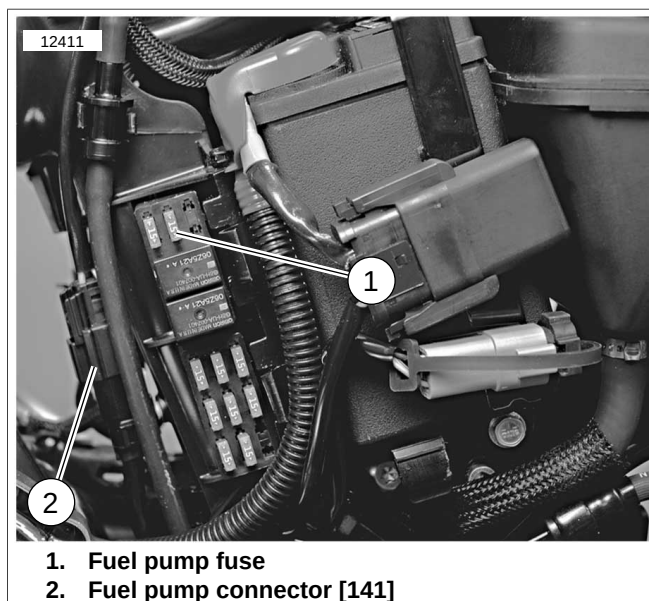
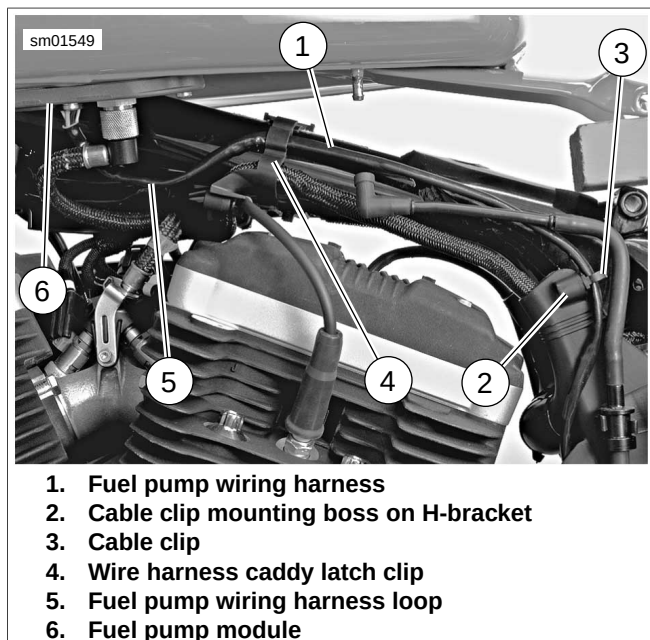

Figure 4-5. Fuel Pump Fuse and Connector
Figure 4-9. Fuel Pump Wiring Harness Routing
- b. See Figure 4-5. Remove fuel pump fuse (1) located in fuse panel in front of battery.
5. See Figure 4-5. Unplug fuel pump connector (2) [141].
4. See Figure 4-9. Place a clean, soft cloth over front of fuel tank to keep tank from contacting top fork clamp and damaging paint. Lift up rear of fuel tank. Place fuel pump wiring harness (1) into clip on wire harness caddy latch clip on frame backbone tube. Make sure harness forms a loop (5) between caddy latch clip and fuel pump module (6) to avoid pinching harness between fuel tank and frame backbone tube.
5. Route fuel pump wiring harness down along left side of H-bracket. Secure with cable clip (3). Push clip into hole in mounting boss (2) on H-bracket.
6. See Figure 4-5. Plug in fuel pump connector (2) [141].